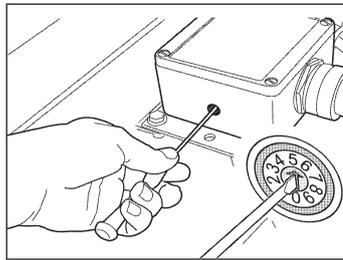

Fig. SE29 Setting up
- ➔ Use a small flat-ended screwdriver to select the transfer address on the machine control unit that you want to use (Fig. SE29).